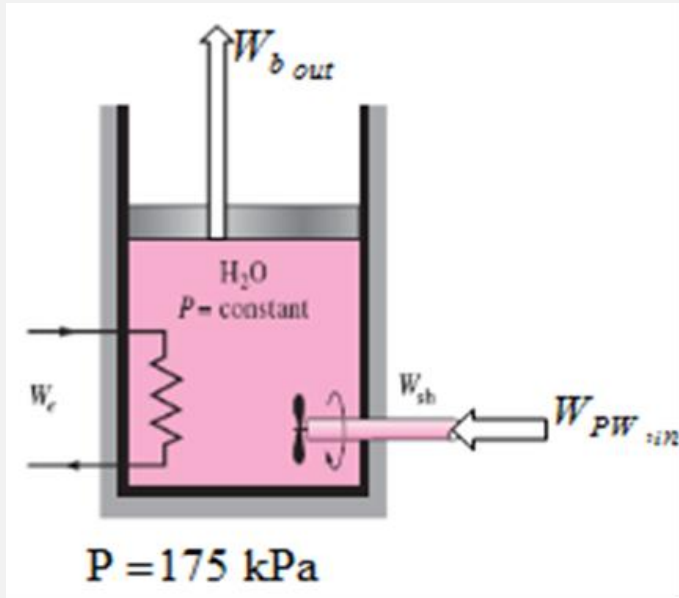

Figure Q1
1. A thin walled and well-insulated cylinder device, as shown in Figure Q1, contains 5 L of saturated liquid water at a constant pressure of 175 kPa. Water is stirred by a paddle wheel while a current of 8 A flows through it for 45 min through a resistor placed in the water. If one-half of the liquid is evaporated during this constant pressure process and the paddle-wheel work amounts to 400 kJ, determine the voltage of the source, in Volts. Also, show the process on a P-v diagram with respect to saturation lines.